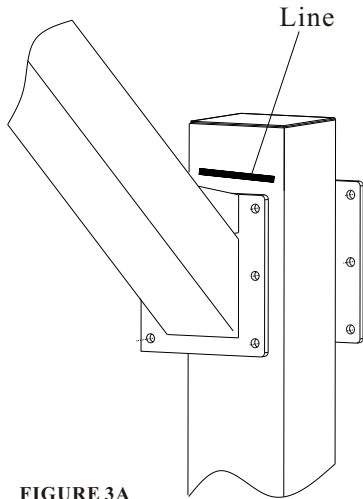

FIGURE 3A
- Tight the Small Extension Arm(C) to Main Extension Arm by using 10 x 25mm Hex Head Bolts (J) , 10mm Flat Washer(K), 10mm Lock Washer(L) .
- A. Position the Main Extension Arm(B) to the Line on Main pos as shown in Figure 3A.